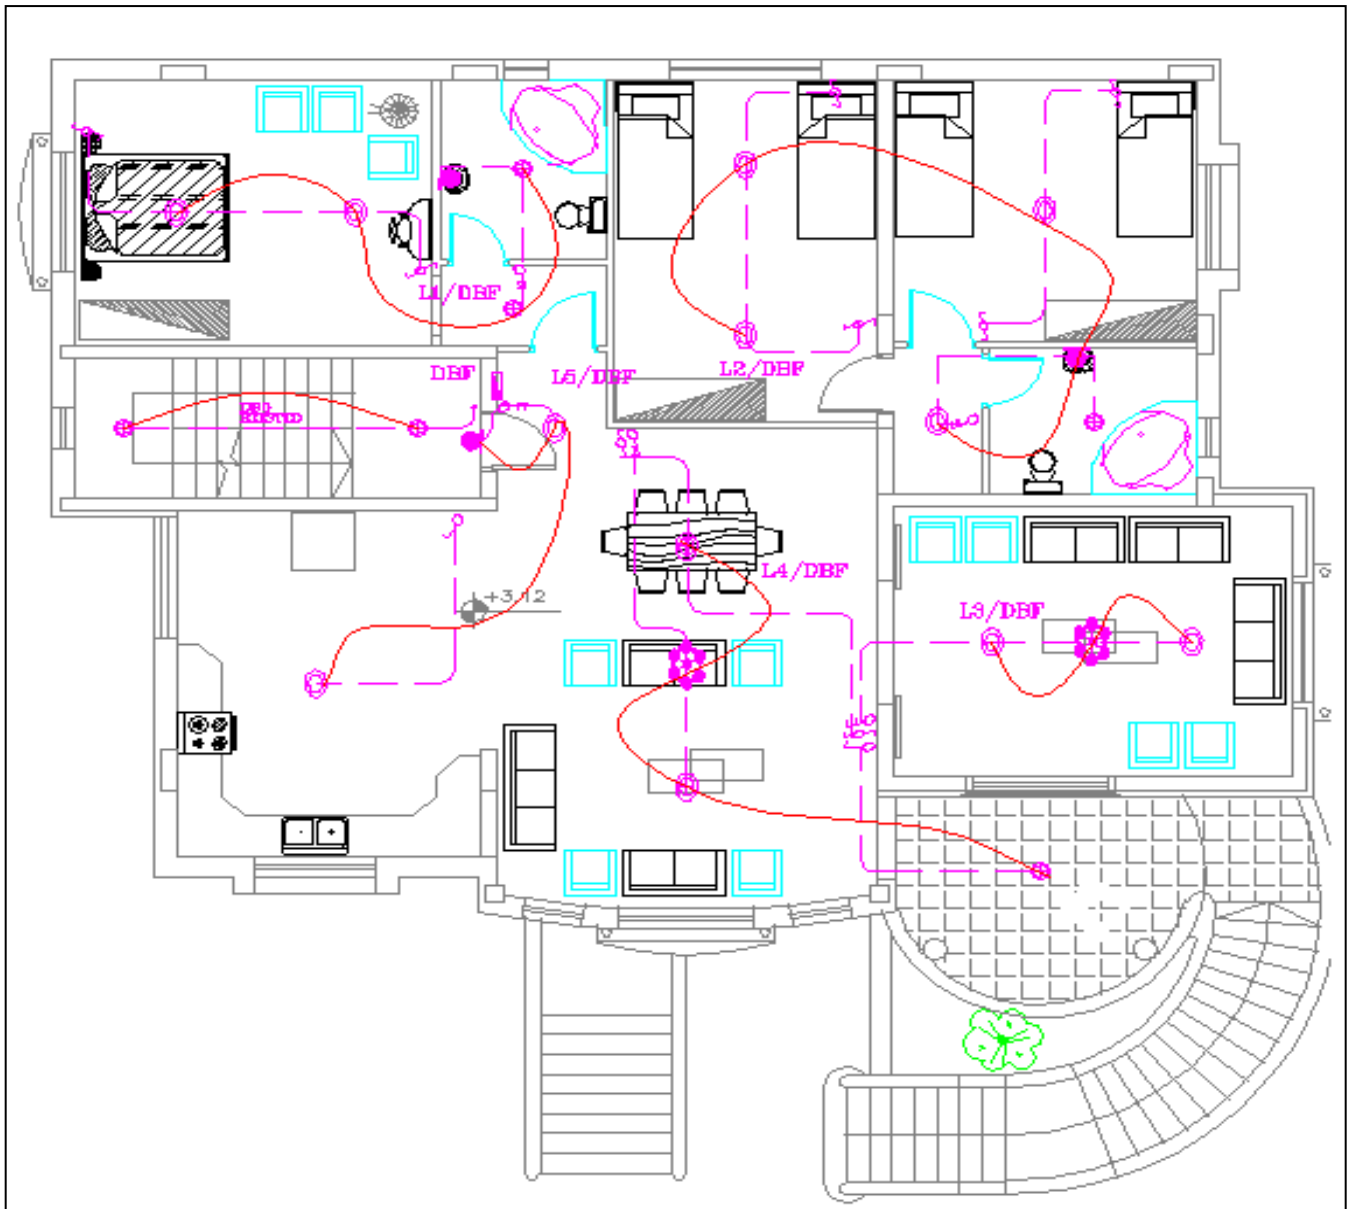

Figure 3.1 Light Plan of a house design
3. Distribute the light element for Kitchen, Living room, Guest room, bathrooms, Bedrooms and Corridors as in Figure 3.1, and then draw your distribution in the copy of the design.